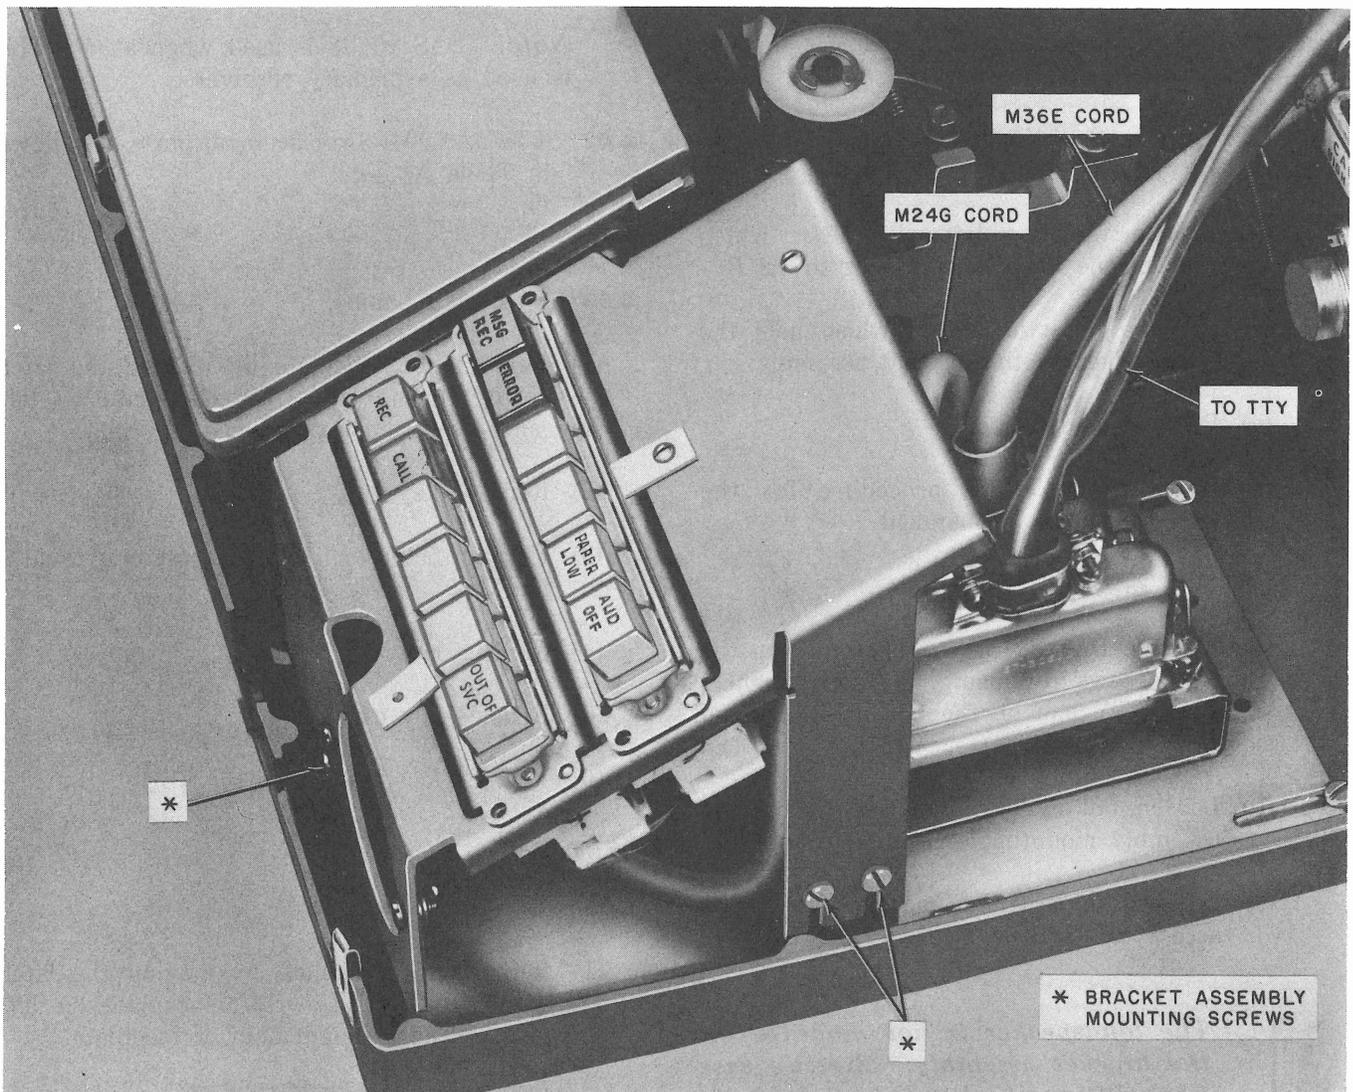
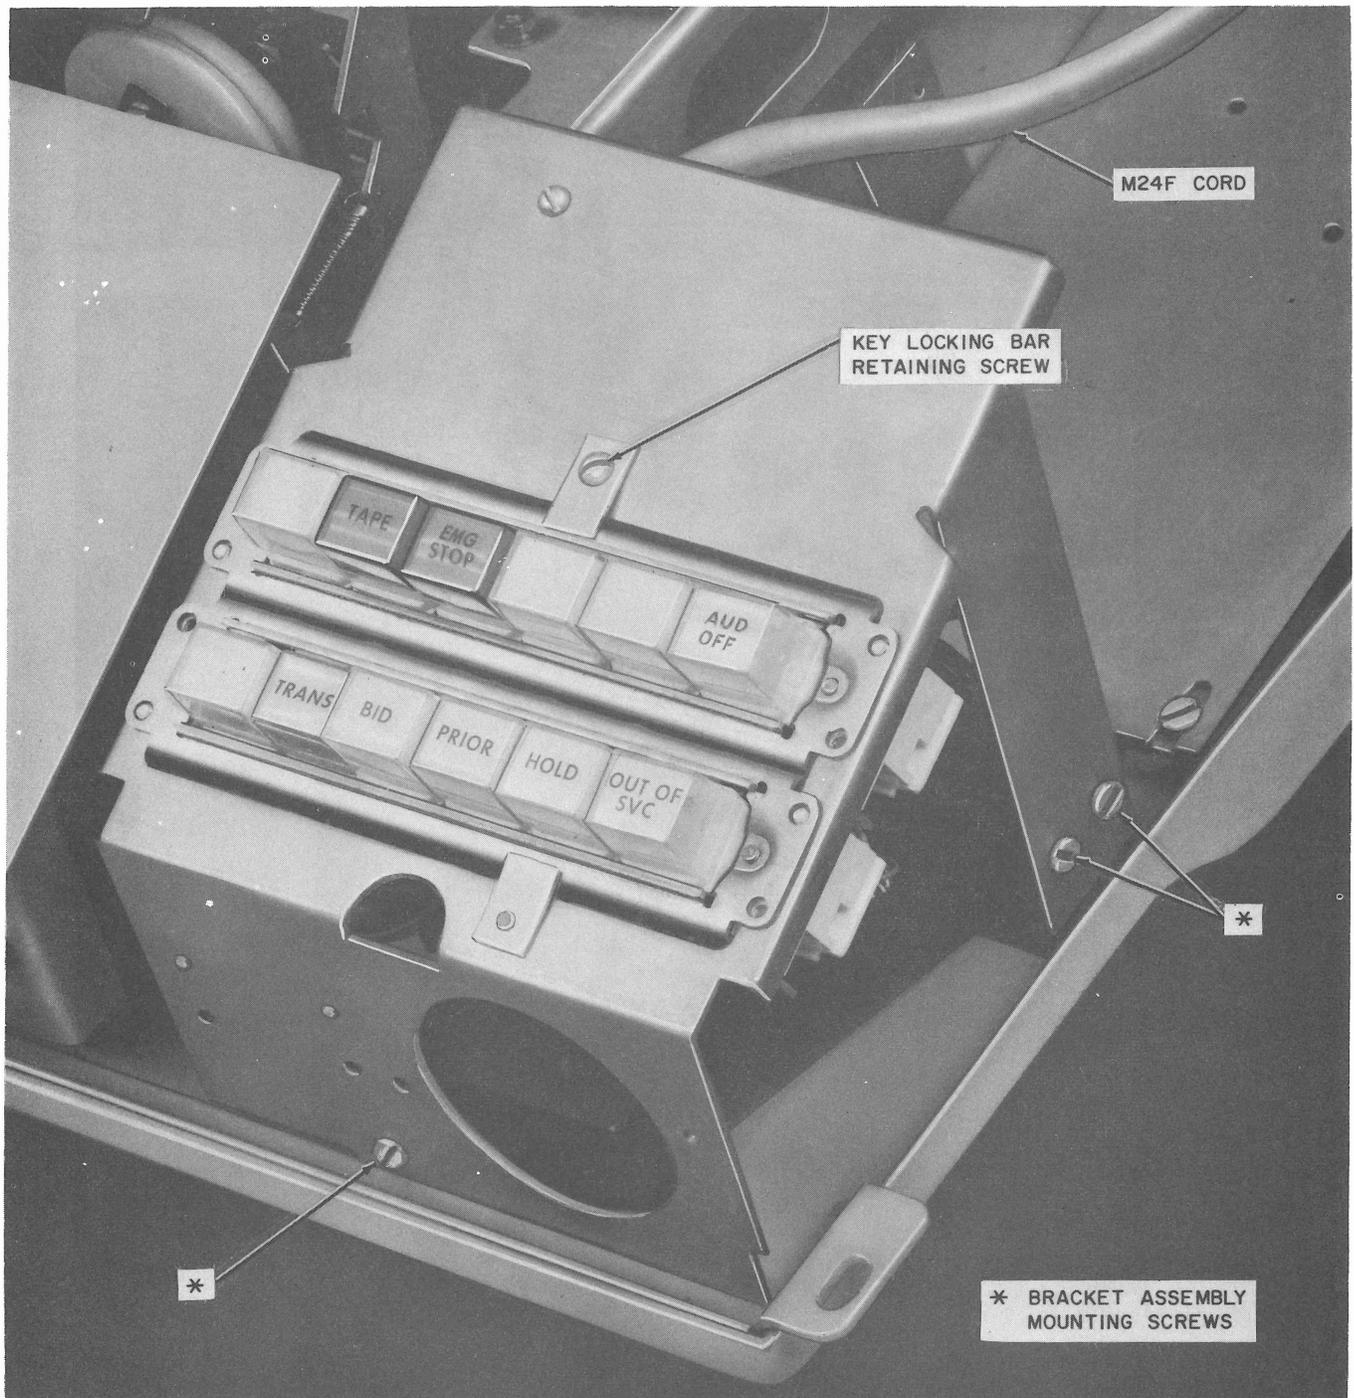

Fig. 7—Data Auxiliary Set 804N2, Mounted in Model 33 RO Teletypewriter
Fig. 8—Data Auxiliary Set 804N1, Mounted in Model 35 ASR Teletypewriter
- (1) Loosen the key locking bar retaining screw (Fig. 7) on DAS 804N-type.
- (2) Remove cord-retaining screw and nut.
- (3) Lift the 635J2 key sufficiently to clear the bracket.
- (4) Release spring-retaining clips which hold the plug to the key and remove plug.
- (5) Rotate the front key locking bar to clear the 635K2 key.
- (6) Lift the 635K2 key sufficiently to clear the bracket.
- (7) Release spring-retaining clips which hold the plug to the key and remove plug.
- (8) Connect plugs to 635K2 key and 635J2 key to be installed.
- (9) Lower keys into bracket. Seat the 635K2 key into the keying pins and rotate the front key locking bar to retain the key.
- (10) Seat the 635J2 key in the keying pins and replace the key locking bar retaining screw.
- (11) Replace cord-retaining screw and nut.
- (1) 33-type TTY
- (b) Loosen, but do not remove the five bracket assembly mounting screws (Fig. 7).
- (2) 35 ASR or RO TTY
- (b) Loosen, but do not remove the five bracket assembly mounting screws (Fig. 8).